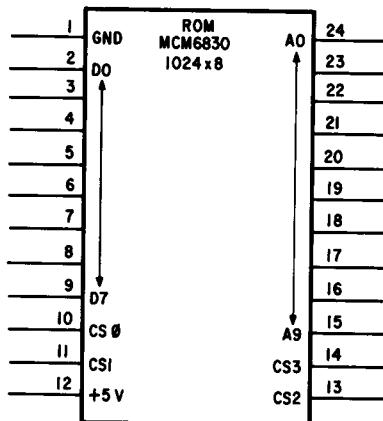

Fig. 9.12 ROM package
The MCM6830 is a TTL compatible, mask-programmable Read Only Memory (ROM). It is a three-state N-MOS chip containing 1024 eight-bit words (bytes) housed in a 24-pin package (Fig. 9.12). The eight ROM data bus pins, D0 through D7, are tied to the MPU data bus pins, D0 through D7. The ten address pins from the ROM (A0 through A9) must be tied to the MPU address bus pins, A0 through A9. These ten address lines are used by the MPU to select an eight-bit word on the particular chip addressed. If there is more than one MCM6830 ROM in the system, the A0 of each ROM is tied to the A0 line in the MPU, the A1 of each ROM is tied to the A1 line in the MPU, and so forth. The MCM6830 ROM has four chip selects available. These four chip selects must be defined by the user as to how many will be positive (CS) and how many negative (\overline{CS}). Since this device is mask-programmable, the